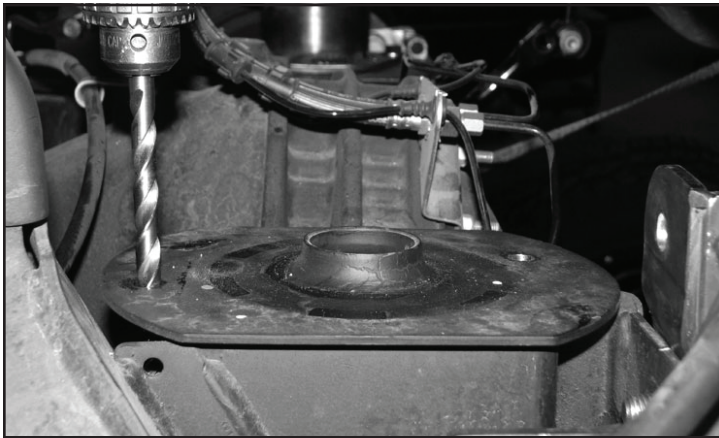

FIGURE 71 - STEP 64
64. Drill out the existing holes located on the factory spring perches to 7/16". **SEE FIGURE 71**